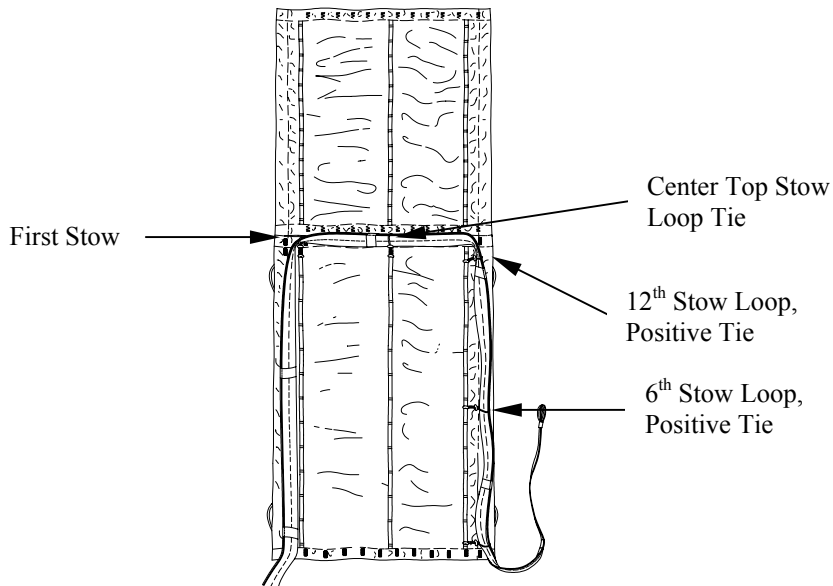

Figure 6. Positive Ties/First Stow.
- e. Beginning at upper left corner of panel, make first S-fold/stow of the extraction line and secure with previously installed type I, 1/4-inch cotton webbing ties (figure 6).